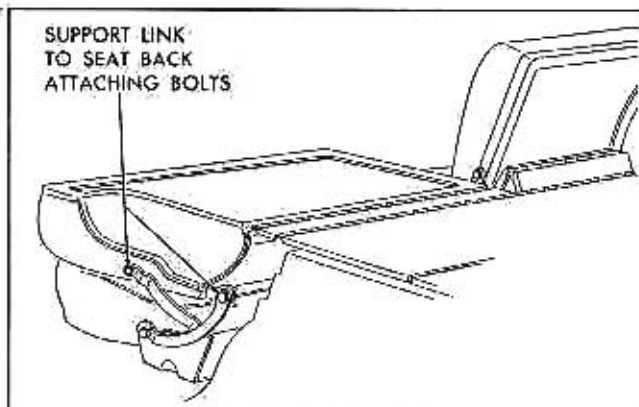

Fig. 5-16 Folding Split Second Seat Back Removal
5. With folding 2nd seat back in down position, remove bolts securing inboard and outboard mounting support link assemblies to seat back assembly (Fig. 5-16) and remove folding split 2nd seat back assembly with attached filler panel from body.